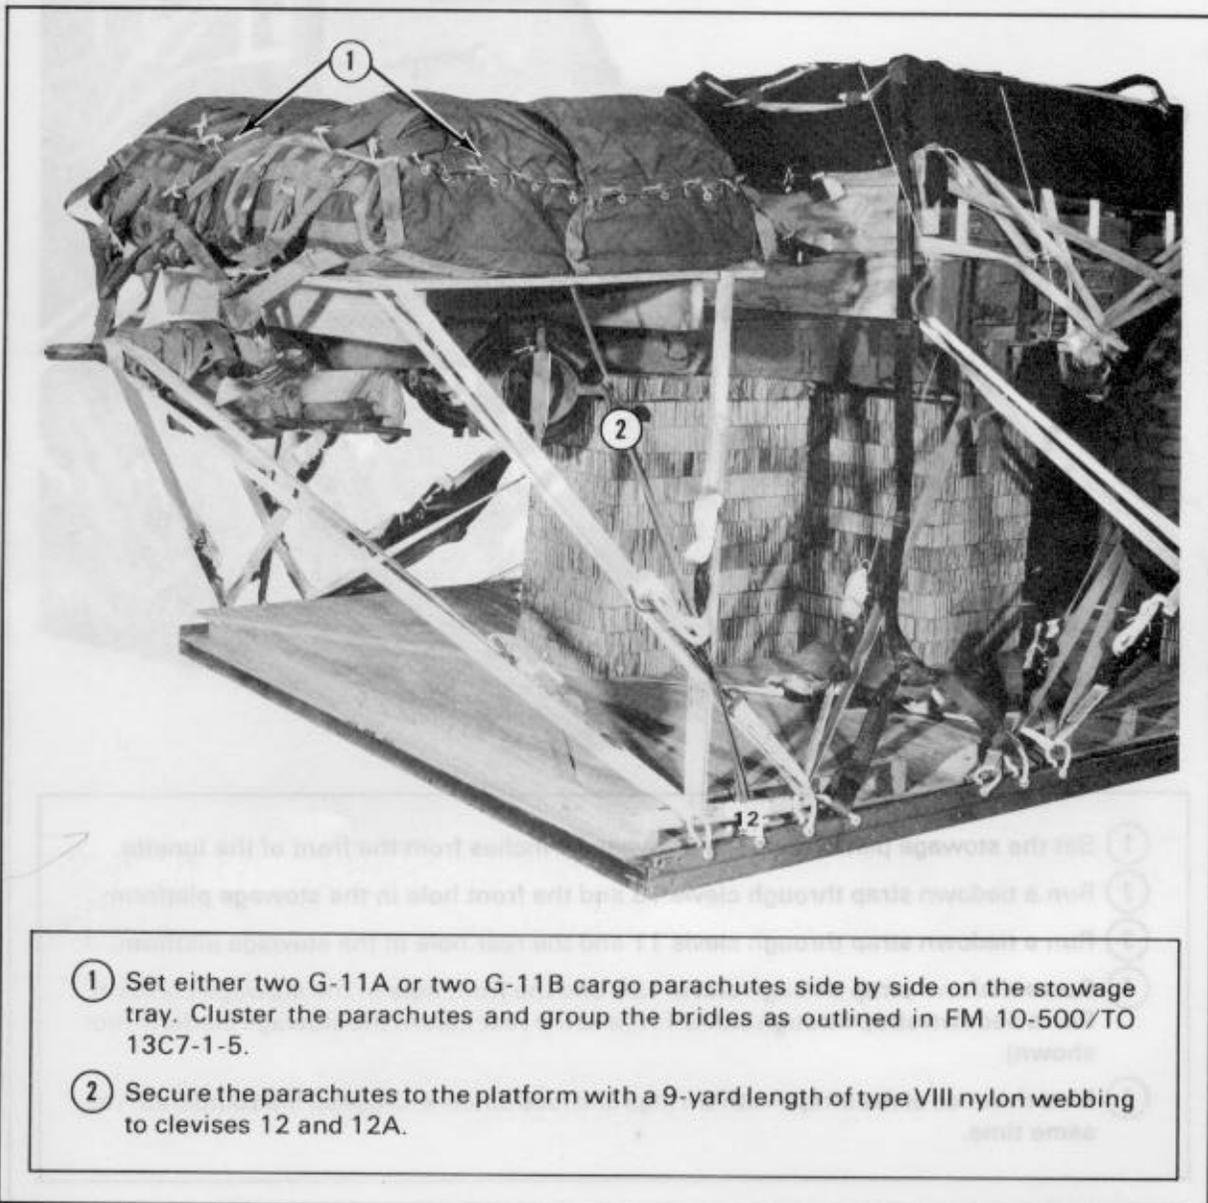

Figure 2-11. Cargo parachutes stowed.
**b. Stowing Cargo Parachutes.** Prepare either two G-11A or two G-11B cargo parachutes as outlined in FM 10-500/TO 13C7-1-5, and stow the parachutes as shown in figure 2-11. When the weight of the accompanying load varies, the parachute requirement **MUST** be computed.